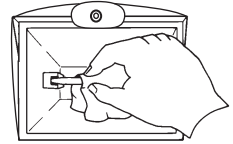

Fig. 2
2. Using gloves or a soft cloth, gently insert bulb by pressing one end into the spring loaded socket and repeat with the opposite end. Bulb should fit securely contacts (Fig. 2).